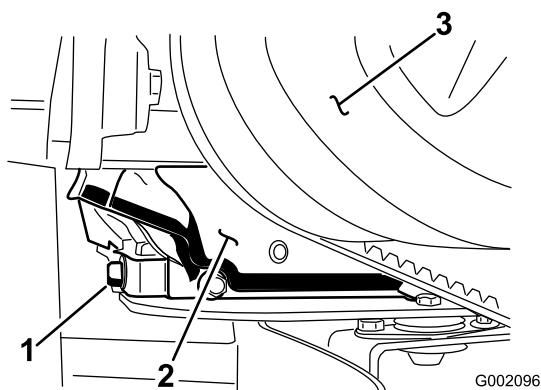

Figure 38
6. Remove the drain plug (Figure 38).
5. Align a drain pan with a 1.5 L (1.6 qt) capacity under the drain plug (Figure 38).